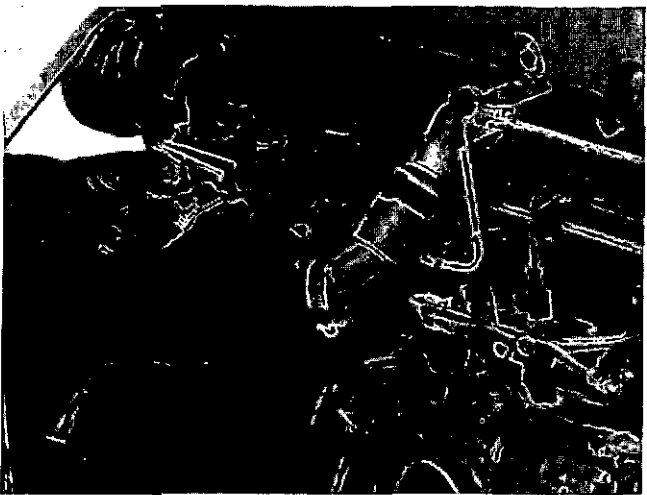

Fig. 0-22. Remove The Air Supply Tube From The Air Compressor.
3. Remove the air supply tube for the air compressor from the aftercooler, Fig. 0-22.